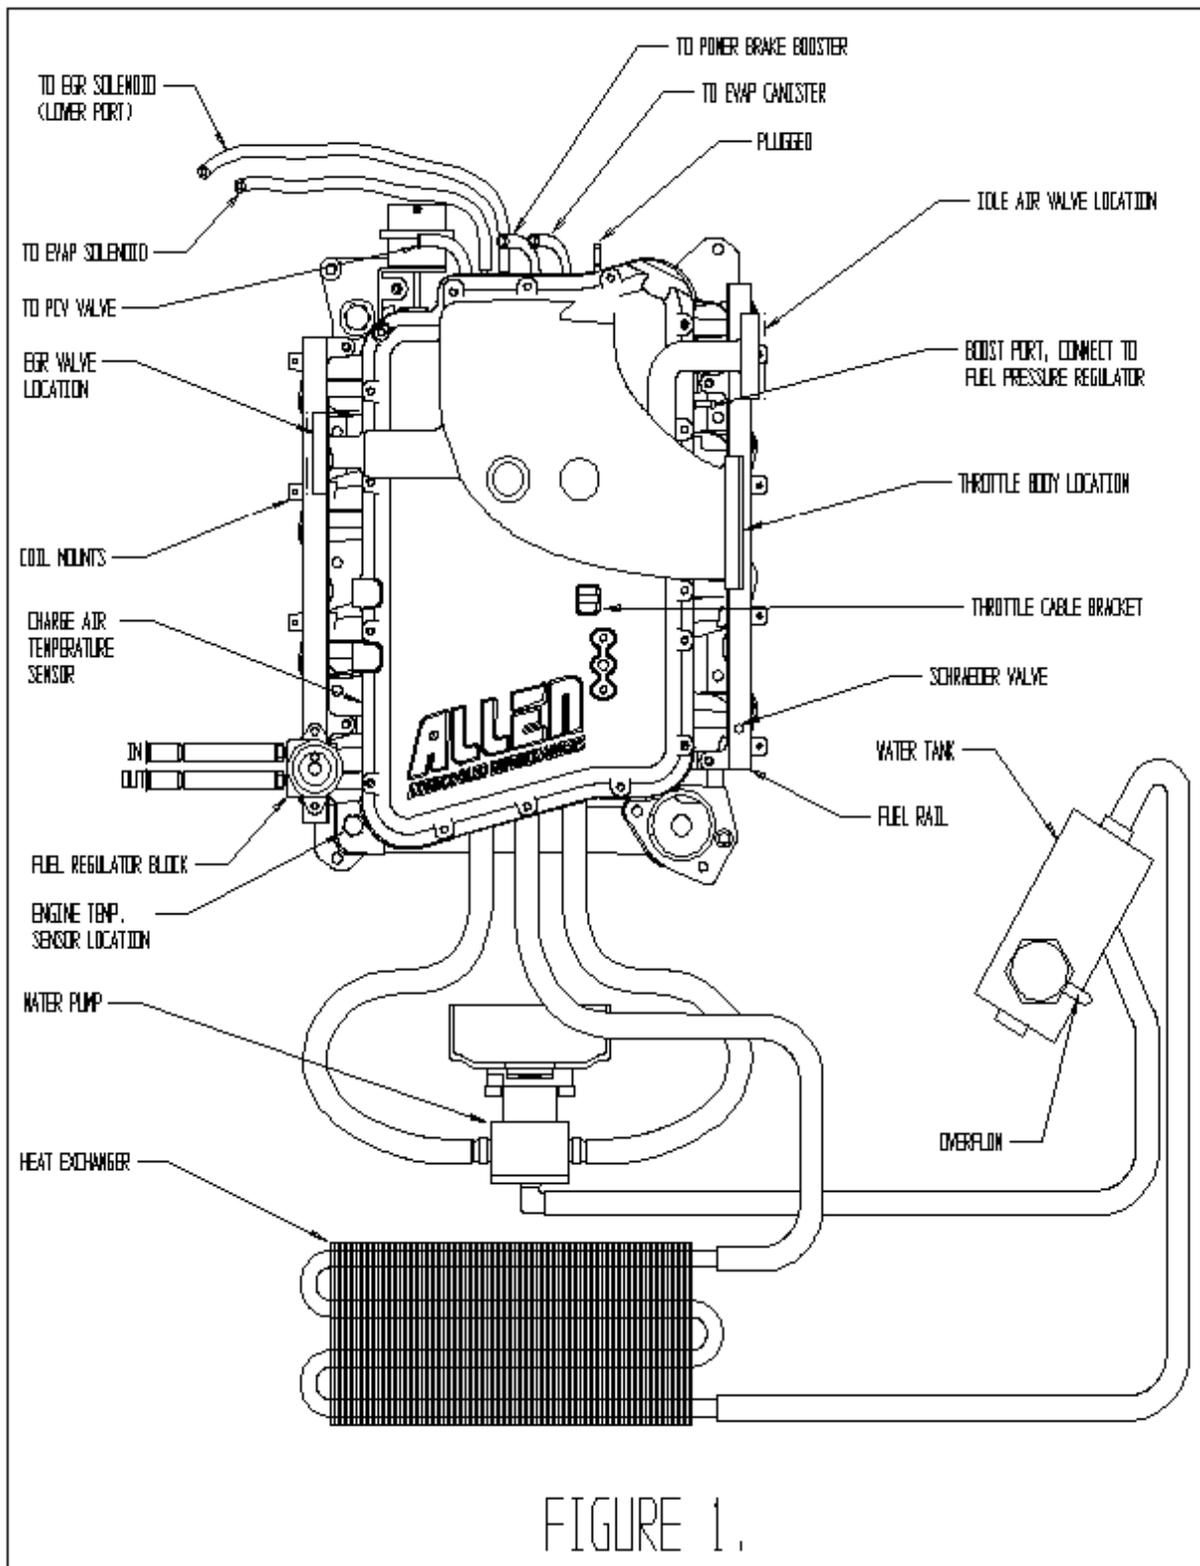

FIGURE 1.
62. Attach the Evaporative canister hose to the passenger side 3/8" vacuum tube. (See Figure 1) The existing hose may need to be shortened slightly for a proper fit.
65. Connect vacuum hoses to EGR valve and solenoid. (See Figure 1)
82. Connect all intercooler hoses as shown in figure 1.